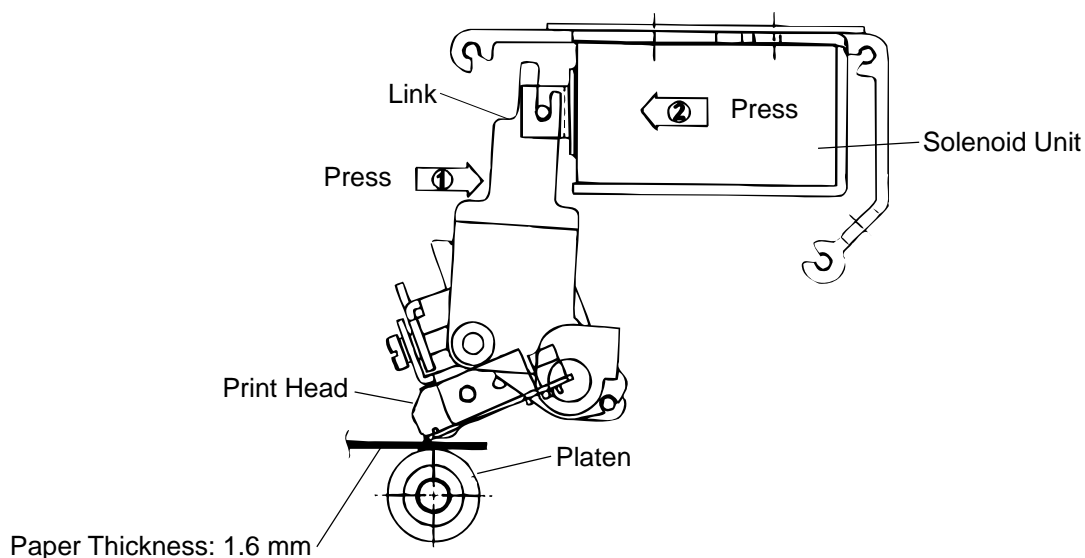

Fig. 2-10
2. *NEVER* remove the two screws painted red on the side of the print block. (See Fig. 2-10)